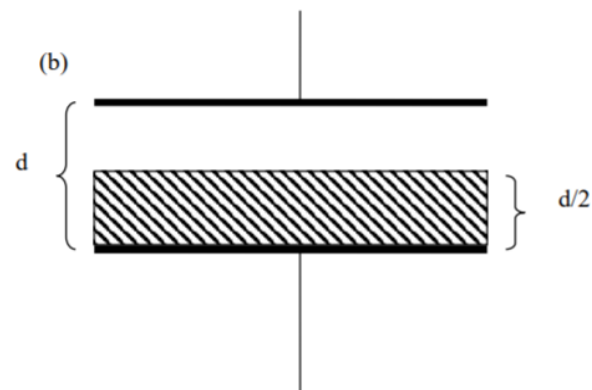

Figure 3
For figure 3, the inner boundary of the inductor can be thought of as a new plate. Thus, the capacitor is similar to two capacitors connected in series with half the distance between the plates each.
- e. Insert material as in figure 3